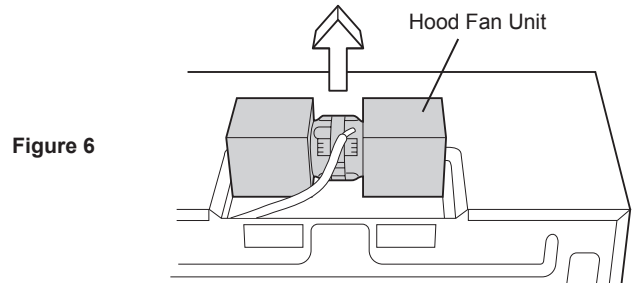

Figure 6
2. Lift HOOD FAN UNIT carefully and slip wires out of cavity. See figure 6. **CAUTION** – Do not pull or stretch hood fan wiring.